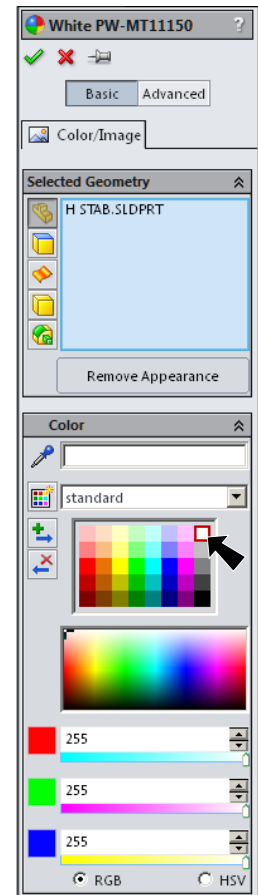

Fig. 18
- Step 3. In the Appearances Property Manager, under **Color**, Fig. 18